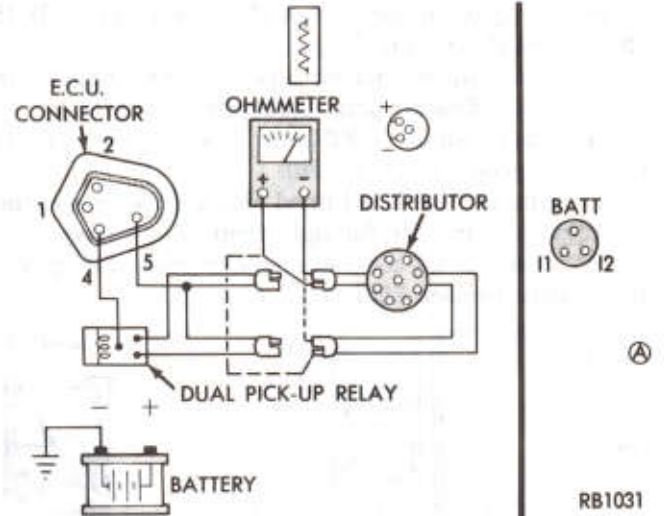

Fig. 11—Testing Resistance of Both Pick-Up Coils
(20) If resistance is not between 150 and 900 ohms, disconnect pick-up leads. Measure resistance, it should be 150 to 900 ohms (Fig. 11). If it is not pick-up coil(s) are bad, replace and go to Step (22).
(21) If resistance is between 150 and 900 pick-up coils are good but wires between cavities 4 and 5 are open or shorted, or dual pick-up start-run relay is bad.